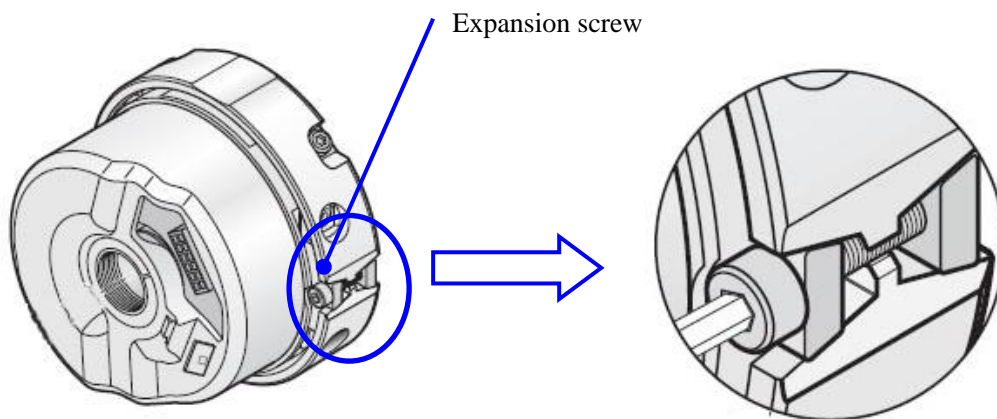

Figure 12: Loosen M2.5 bolt
3. Loosen (do not remove) the Expansion screw M2.5 by Inner hex wrench 2mm. See Figure 12.